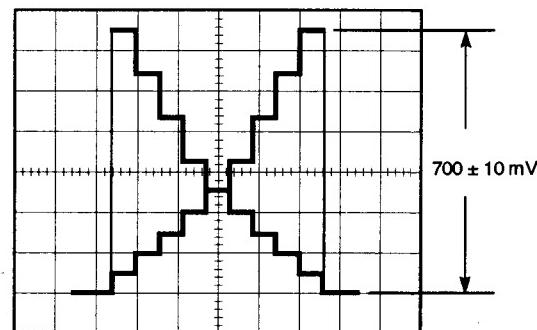

Fig. 5-1-44
- Confirm that the Video signal level becomes 700 ± 10 mV as shown in Fig. 5-1-44.
- Adjust VR205 so that the Video signal level becomes 700 ± 10 mV as shown in Fig. 5-1-44.
- Confirm that the Video signal becomes 700 ± 10 mV as shown in Fig. 5-1-44.
- Set the Lens Iris so that the Video signal level becomes 700 ± 10 mV as shown in Fig. 5-1-44.